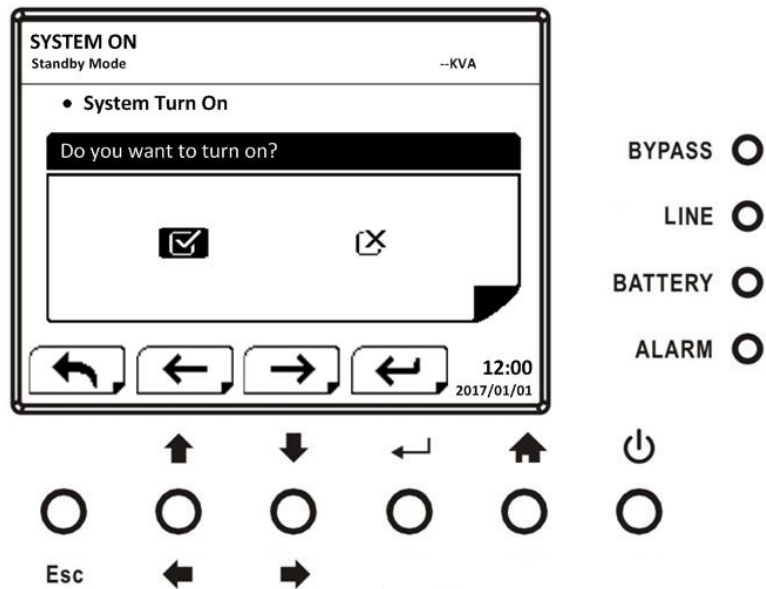

Figure 4-8 Confirmation screen
When the control option is selected by pressing "←" button, the confirmation screen will pop up. Use "←" or "→" button to choose "V" (YES) or "X" (NO). Choose "V" and press "←" button to confirm command or choose "X" to cancel command, as shown in Figure 4-8.